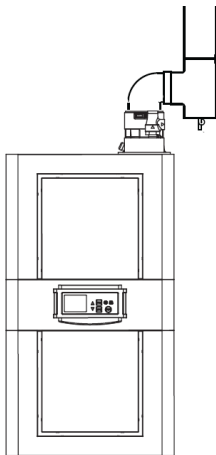

Figure 25. Offset Venting Setup
3. The vent must be offset and condensate from the vent drained away from the unit to prevent damage per Figure 25.